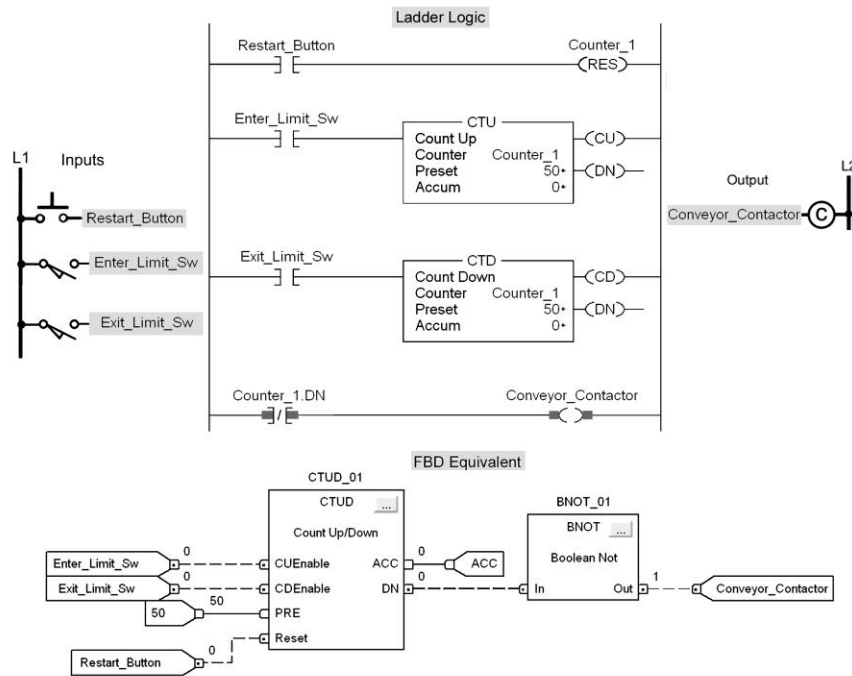

Figure 15-64
6) The programs of Figure 15-64 show the ladder logic and the FBD equivalent for an up/down counter program. The operation of the FBD program is explained in the text.